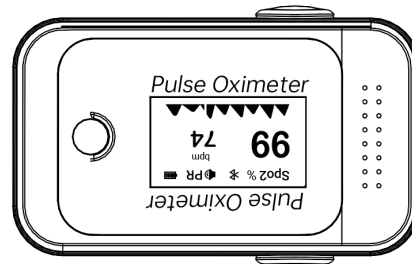

Figure 8
- Once the product is powered on, long press the "POWER/FUNCTION" button to turn on Bluetooth. The Bluetooth indicator light on the top of display will flicker (as shown in **Figure 8**).